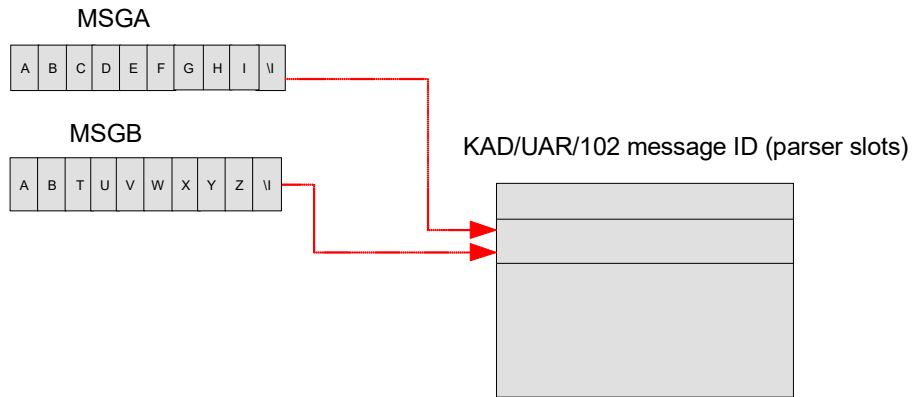
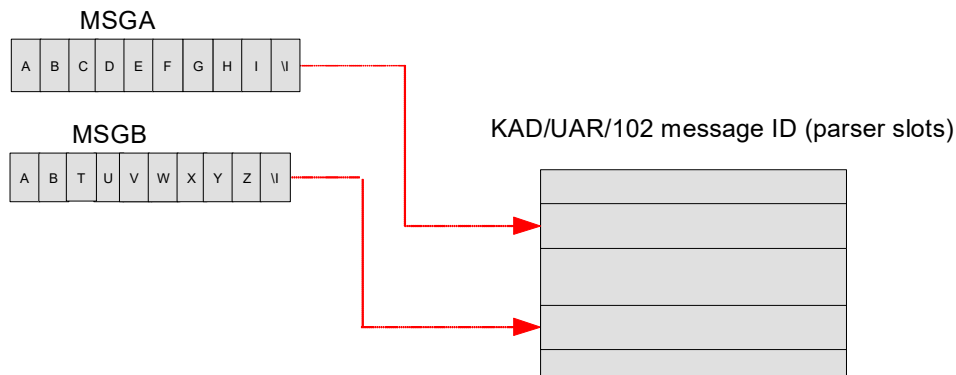

Figure 35-12: Using the same message ID (same parser slot for two different messages)
Figure 35-15: Using a unique message ID (different parser slots for two different messages)
| Data Position    | <p>Position of the data word in the message.</p> <p>If the data position is an even number, the data word is read as:           Data N (even) R[15:8] The 7/8 bits of byte M in serial stream. R(15) is the Last Bit Transmitted (LBT).           Data N (even) R[7:0] The 7/8 bits of byte M+1 in serial stream. R(15) is the LBT.</p> <p>If the data position is an odd number, the data word is read as:           Data N (odd) R[15:8] The 7/8 bits of byte M in serial stream. R(15) is the LBT.           Data N (odd) R[7:0] The 7/8 bits of byte M-1 in serial stream. R(15) is the LBT.           See Figure 35-12 on page 260 and Figure 35-15 on page 260 for an example of data position.</p> |
Two different messages are defined in the bus: Message A (MSG A) - ABCDEFGHII; and Message B (MSG B) - ABTUVWXYZII. If for one message, the Start Sequence is defined as AB, the KAD/UAR/102 uses the same ID (parser slot) to store the message (see Figure 35-12 on page 260). In this case, the data words for the module return the following: